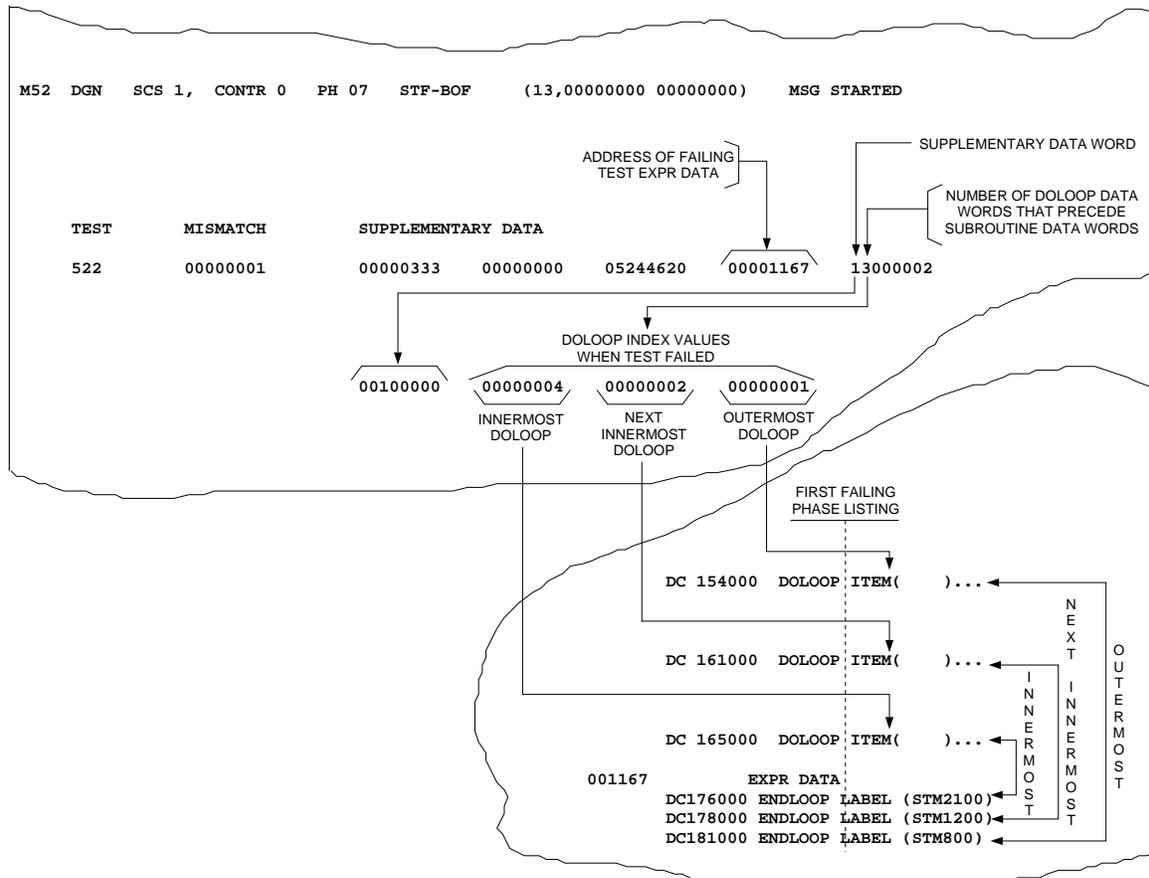

Figure 1. Relationship of Subroutine Data Words to Phase and Subroutine Listings
1. In first failing phase PIDENT, locate the first failing test using the EXPR address on the raw data printout. (See Figure 1.)
9. Obtain doloop index value from raw-data printout and note its meaning for this doloop. (See Figure 1.)
1. Refer to Figure 1 (Page 6) and DIAL statement definitions in 234-180-020, *Diagnostic Language - DIAL*, as necessary.